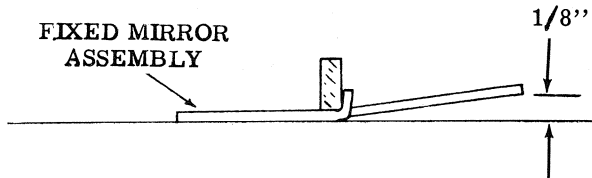

Figure 18. Forming Fixed Mirror Assembly
a. Thoroughly clean the mirror assembly (6) and screws (7 and 8) of all cement. Place the mirror assembly (6) on a flat surface and bend the narrow arm up approximately 1/8 inch from the surface (figure 18). To take up slack in the black shutter wire, it should be laid between the body bosses beneath the fixed mirror assembly (6). Replace in the camera body by securing the narrow arm of the mirror assembly with the slotted screw (8). Drive the Phillips head screw (7) in the opposite end until the head just touches the mirror assembly.
b. Position the fixed mirror assembly (6) on the body assembly (14) with the slot at the end of the mirror assembly positioned over the stud located in front of the rear viewfinder eyepiece. Secure with the slotted screw (8) at the end towards the camera front and the Phillips head screw (7) at the slotted end.
c. Position the triangulating mirror assembly (3) on the body assembly (14) with the mirror over the guide stud along side the counter mechanism shaft. Secure with special screw (4).